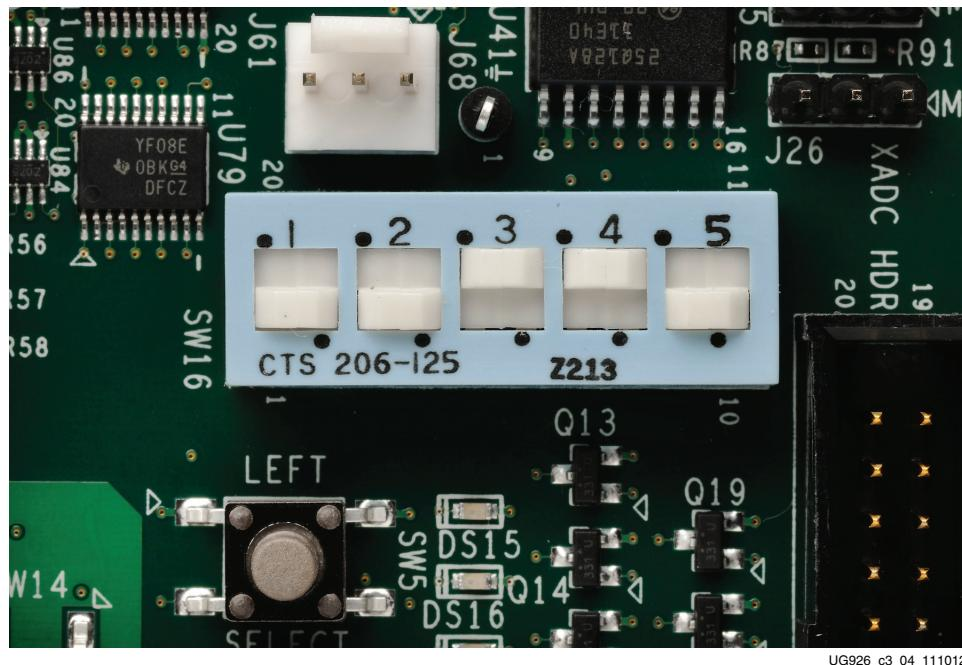

Figure 3-4: Switch Settings for the Mode Switch to Boot from the SD MMC Card
4. Make sure the switches are set as shown in Figure 3-4, which allows the ZC702 board to boot from the SD MMC card.